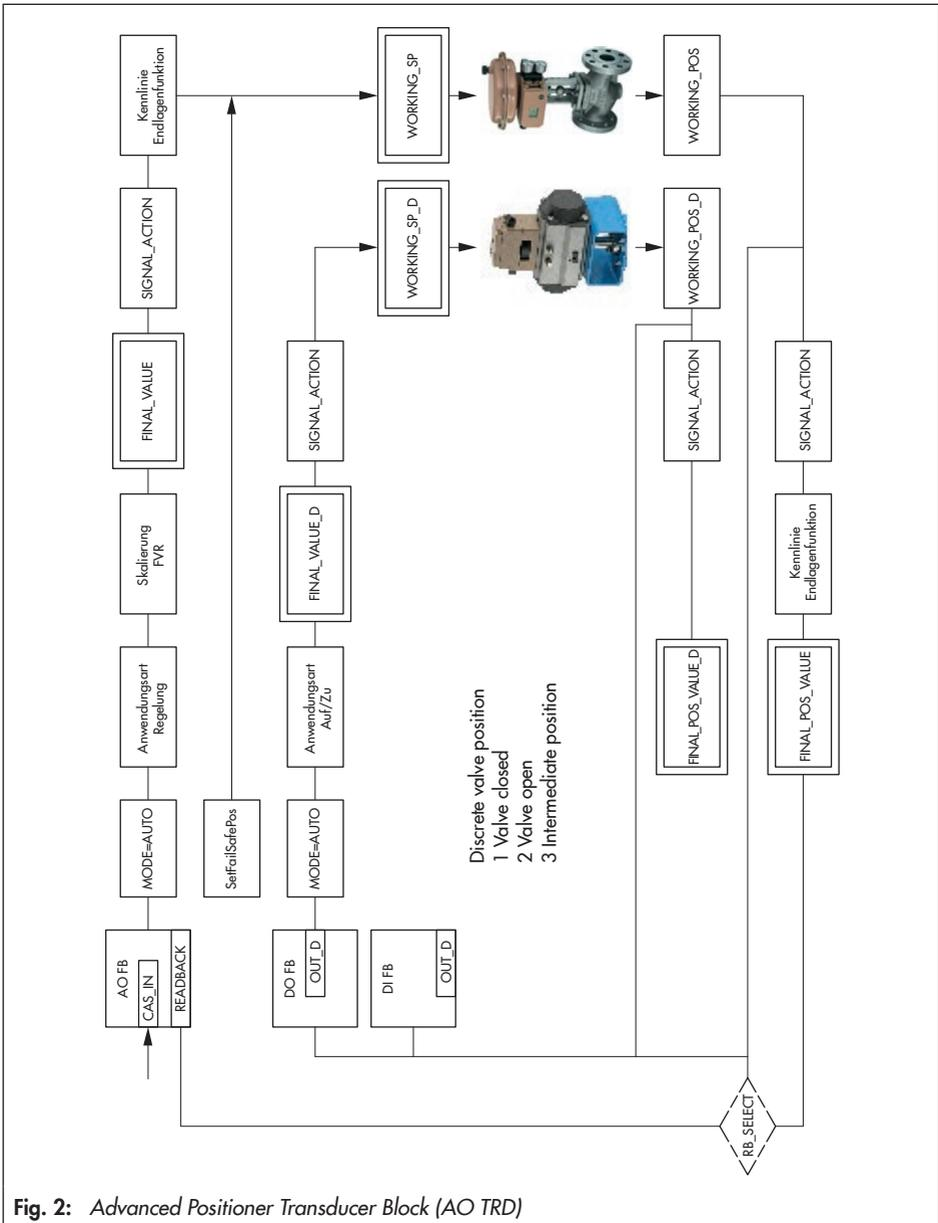

Fig. 2: Advanced Positioner Transducer Block (AO TRD)
**Parameter description (Fig. 2)**